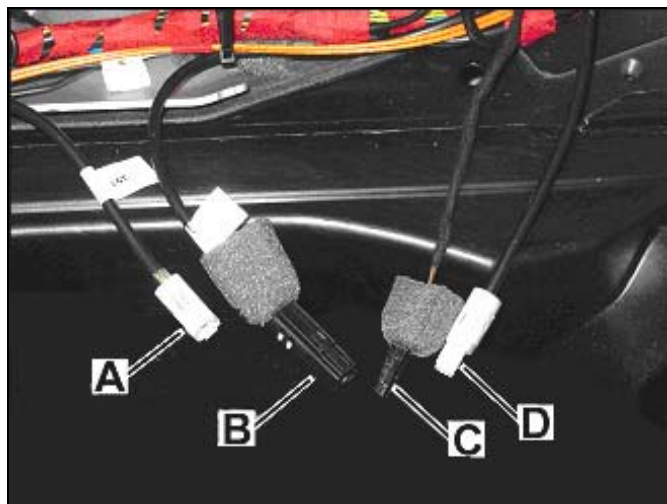

Figure 7
- Tele Aid lead (white, female FAKRA) (A, Figure 7)
- Telephone lead (black, female FAKRA) (B, Figure 7)
- 4-pin power supply connector (C, Figure 7)
- Main antenna lead (white, male FAKRA) (D, Figure 7)